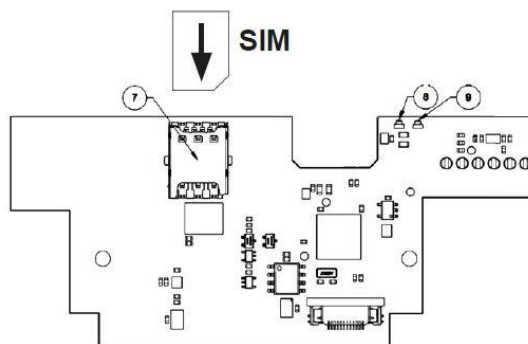

Figure 3: SIM card mounting
In order to use CMi6110, a SIM card (size Nano) needs to be mounted in the SIM card holder (7), see Figure 3. The module is thereafter mounted in module slot 2 of a L+G UH50 heat meter or a L+G UC50 heat calculator with software version 5.15/8.06 or higher. To insert the module to the meter, grab the module by the outer edges and gently press it into its position.